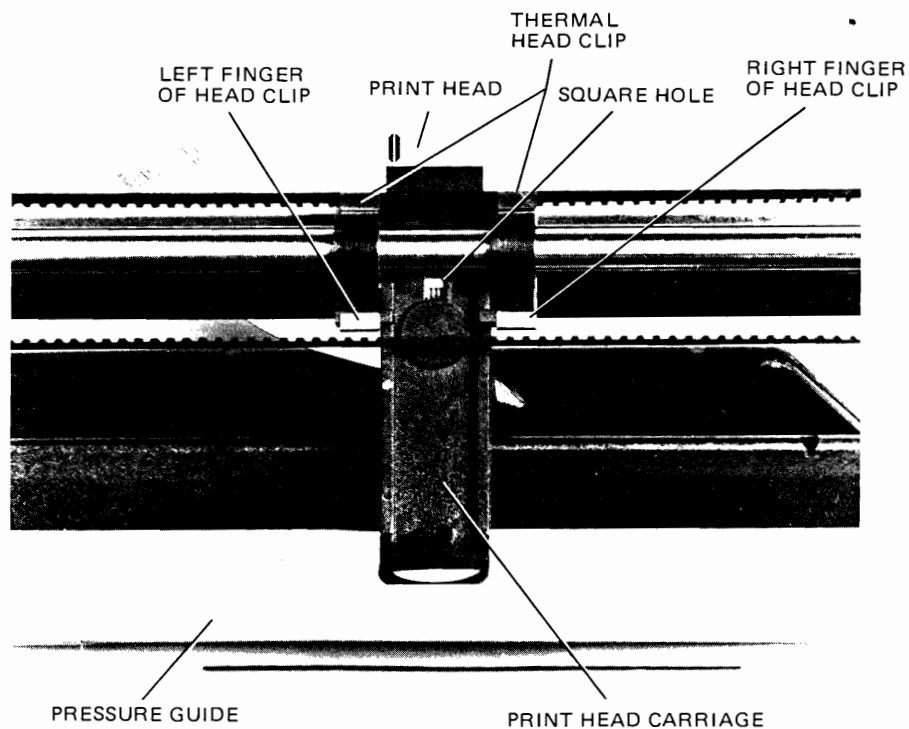

Figure 7-13B. TPM Front View
4. Slide the print head carriage down to the middle of the TPM. (See figure 7-13B).
5. Loosen the right and left fingers of the thermal head clip which secures the print head in place. (See figure 7-13B.)
1. Put the TPM on the edge of a table top with the pressure guide and print head carriage facing you. The pressure guide needs to hang over the edge of the table. (See figure 7-13B.)
3. Slide the print head up the print head carriage between the print head carriage and the thermal head clip. (See figure 7-13B.) Do not bend the flex cable where it connects to the print head because the wires will break.
5. Look through the square hole of the print head carriage. Be sure that print head ceramic is seen in half of the square hole, and that flex cable is seen in the other half of the square hole. (See figure 7-13B.)
6. Latch the left and right fingers of the thermal head clip. (See figure 7-13B.)